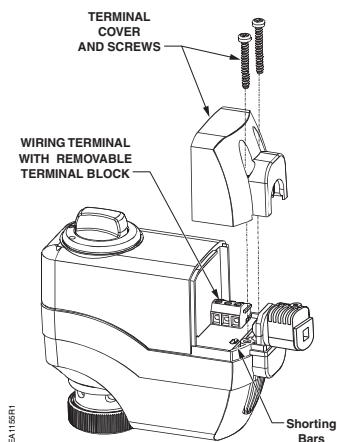

Figure 5. Manually Clearing Calibration Stroke from SSC61U and SSC61.5U Nonvolatile Memory.
2. Locate hole on the circuit board with the shorting bars (Figure 5).